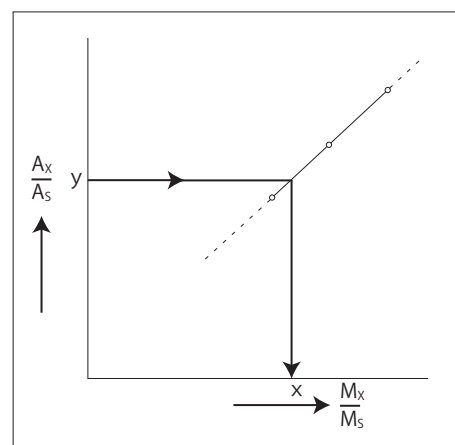

Figure 5. Calibration Curve of Internal standard method
3. Prepare a calibration curve (as shown on fig. 5) by plotting M_x/M_s vs. A_x/A_s ratios. M_x is the amount of the sample injected, and M_s is the amount of the standard. A_x is the peak area of the sample, and A_s is the peak area of the standard. The calibration curve is usually a straight line through the origin.